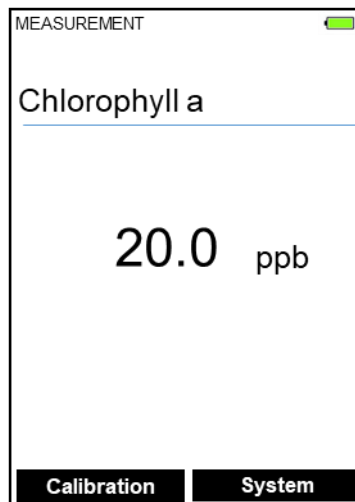

Figure 9
- 10) Long press the slope labeled key (OK) to return to the main measurement screen. The screen will be similar to *Figure 9*. Slight variance in the chlorophyll-a value displayed vs the calibrated value is not problematic. If Exit is done before the second checkmark appears, the calibration will not be completed and must be re-done.